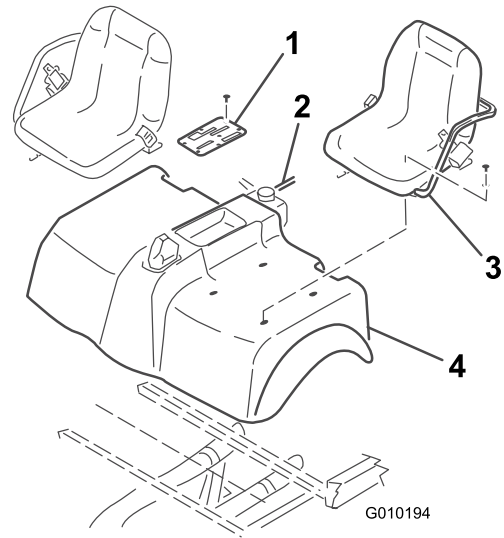

Figure 3
3. Remove (6) screws securing outside edge of center console cover plate to frame and remove cover plate (Figure 3).
4. Disconnect the reservoir hose from the radiator and plug or clamp it to retain coolant (Figure 3). Remove the operator shield from the ROPS.
5. Remove the capscrews securing the seats and shroud to mounting brackets (Figure 3). Remove the seats and shroud.